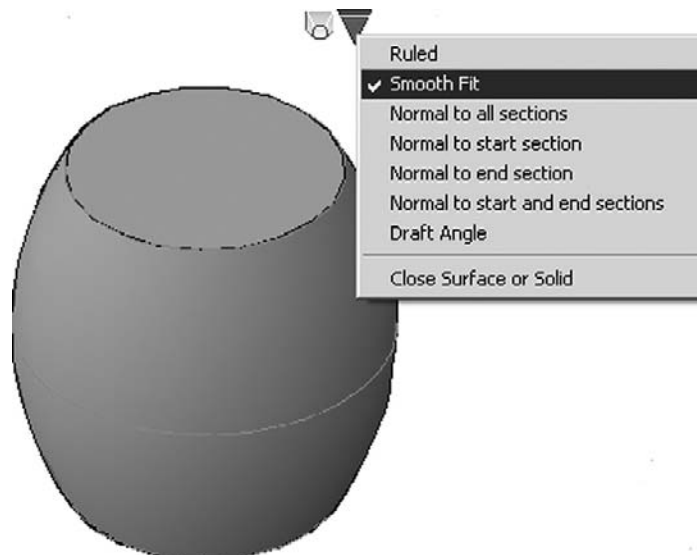

FIGURE 25.24
Step 4. Press Enter. The loft is performed and the barrel is visible if you are in the shaded mode. You also see a prominent down arrow, which when pressed reveals a menu to fine-tune the loft (Figure 25.24). Experiment with the various choices to see the